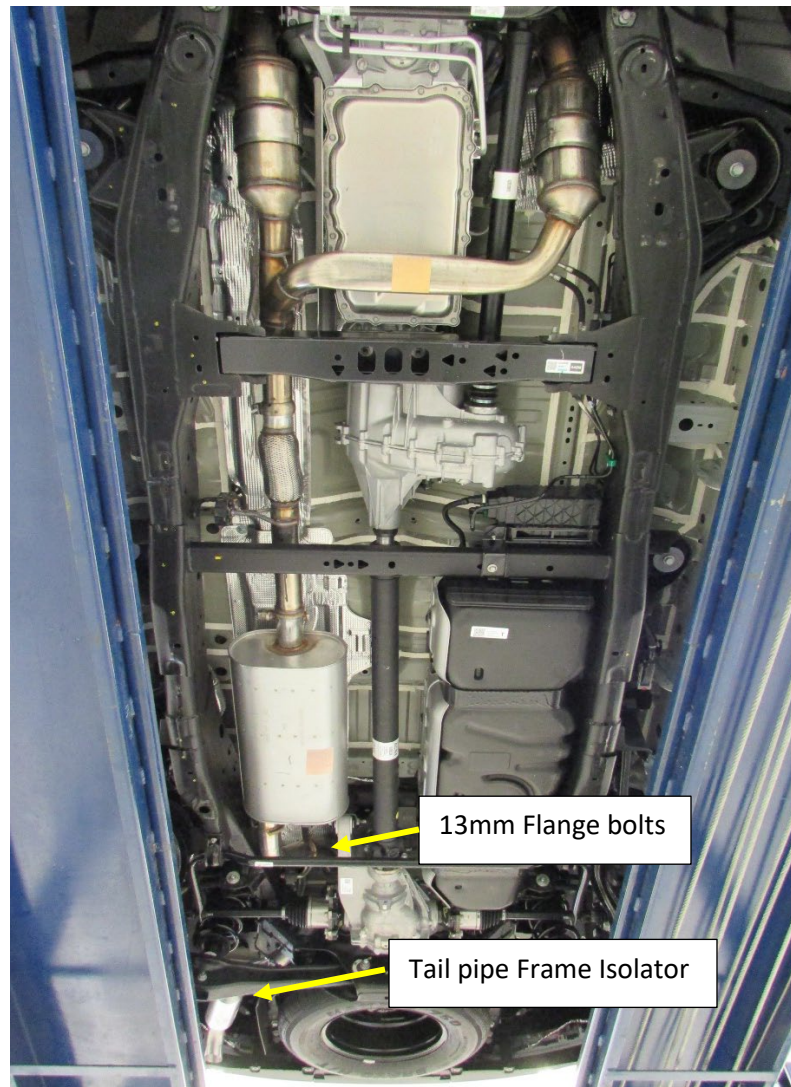

Figure.1
1. Remove the rear tail pipe isolator from the tail pipe and save for reuse. **Fig.1**
2. Remove the (2x) 13mm nuts at the tail pipe mounting flange just over the rear axle. Remove the tail pipe assembly from the vehicle. **Fig. 1**